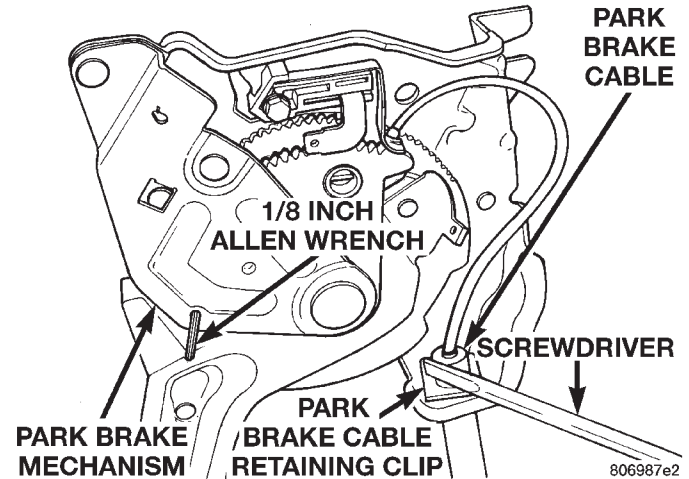

Fig. 113 Park Brake Cable Retaining Clip
(12) Mount park brake pedal assembly in a vise. Remove front park brake cable to park brake assembly retaining clip (Fig. 113).